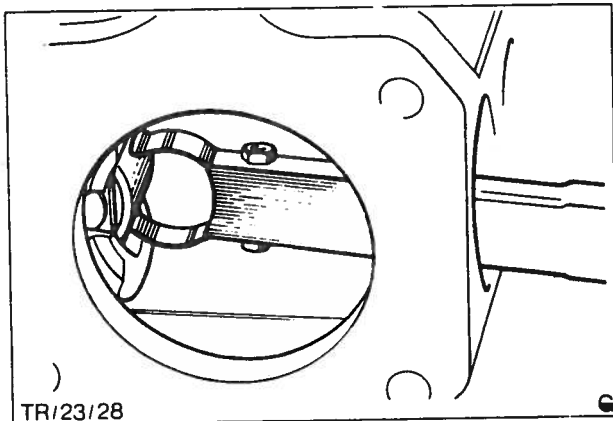

Fig. 51 Removing tappet with forceps
12. Slacken the tappet locating screws and, using the tappet forceps, Tool No. L1687953010, force each tappet upwards and remove the tappet holder pins. Remove each of the tappets and keep them with their respective delivery valve assemblies, Fig. 51.